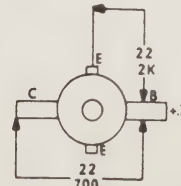
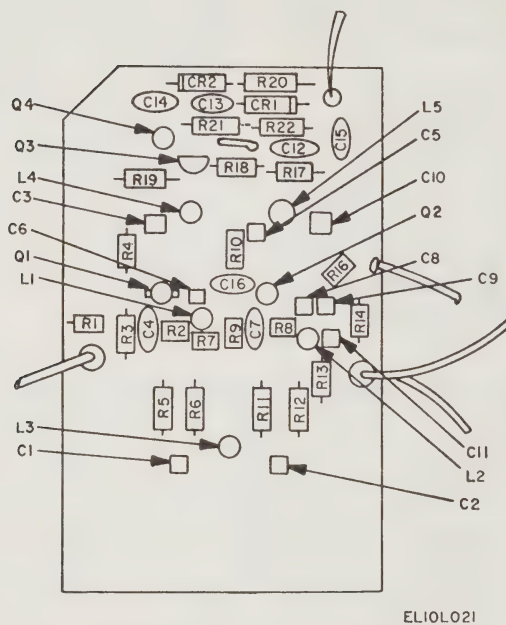

Figure 7-6. Rf amplifier board A9A1, circuit measurements.
Figure 7-8. Rf preamplifier board A9A2, parts location.
a. Rf amplifier assembly A9 amplifies the signal from A8 to the required level and provides amplitude and pulse modulation. For troubleshooting assembly A9 and subassemblies A9A1 and A9A2, refer to figure FO-2, sheet 3 for the schematic diagram, figures 7-6 and 7-7 for transistor and integrated circuit voltage and resistance data, figures 7-8 and FO-8 for parts location and figure FO-7 for disassembly information.
b. Signal tracing techniques, using an oscilloscope and a frequency counter, may be used to isolate a fault to a defective stage. Voltage measurements based on figures 7-6 and 7-7 and table 7-7 should then be made to further isolate the fault to a defective part. Voltage measurements should be made with the equipment operating. Resistance measurements can then be made to confirm the defect. Use the multimeter on the RX1 scale with the equipment turned off.